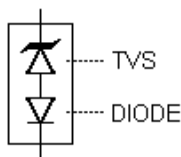
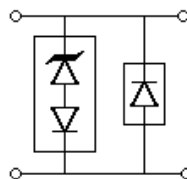

FIGURE 4
FIGURE 5
The TVS low capacitance device configuration is shown in Figure 4. As a further option for unidirectional applications, an additional low capacitance rectifier diode may be used in parallel in the same polarity direction as the TVS as shown in Figure 5. In applications where random high voltage transients occur, this will prevent reverse transients from damaging the internal low capacitance rectifier diode and also provide a low voltage conducting direction. The added rectifier diode should be of similar low capacitance and also have a higher reverse voltage rating than the TVS clamping voltage V_C . The Microsemi recommended rectifier part number for the application in Figure 5 is the "SMBJLCR80" or "SMBGLCR80" depending on the terminal configuration desired. If using two (2) low capacitance TVS devices in anti-parallel for bidirectional applications, this added protective feature for both directions (including the reverse of each rectifier diode) is inherently provided in Figure 6. The unidirectional and bidirectional configurations in Figure 5 and 6 will both result in twice the capacitance of Figure 4.